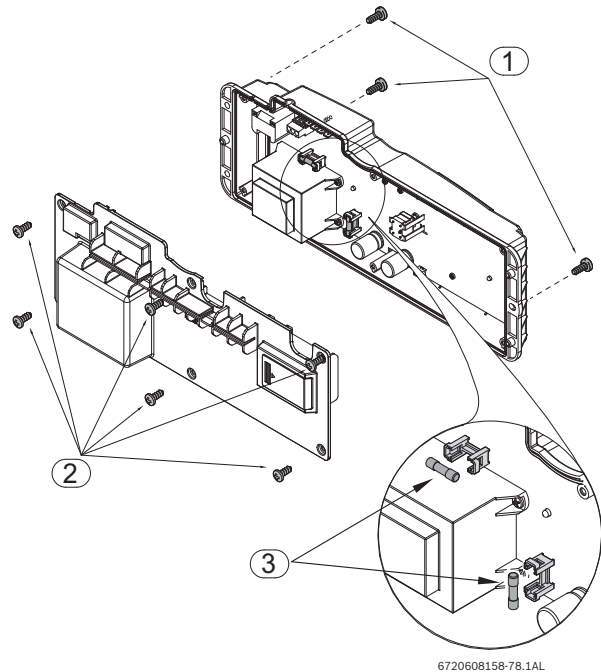

Fig. 38 Location of fuses
- ▶ Pull control unit free to access and remove the six screws from the back cover of the control unit, see Fig. 38, pos. 2.
- ▶ Check the fuses in the printed circuit board, see Fig. 38, pos. 3.